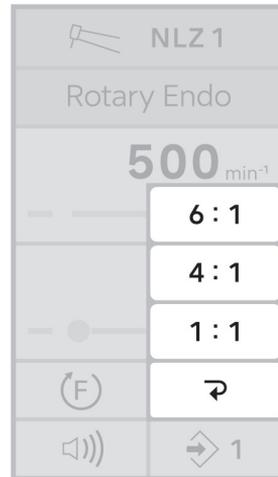

Figure 14.
2. Select the gear ratio of the handpiece to be used (Figure 14).